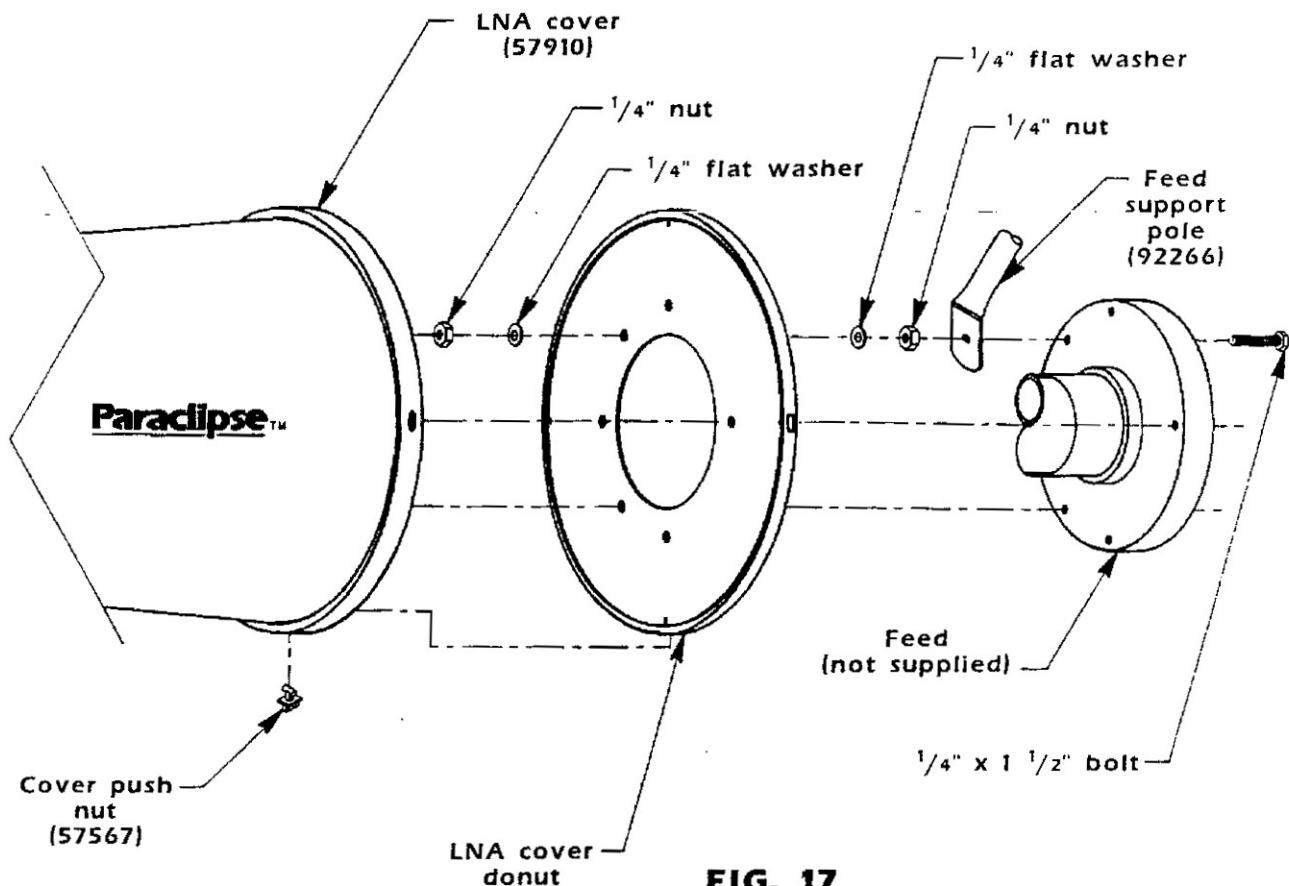

FIG. 17
three  $\frac{1}{4}$ " x  $1\frac{1}{2}$ " bolts, six  $\frac{1}{4}$ " flat washers, and six  $\frac{1}{4}$ " nuts. (See Fig. 17)
7. Attach top of LNA cover to the donut using the special cover push nuts provided. (See Fig. 17)